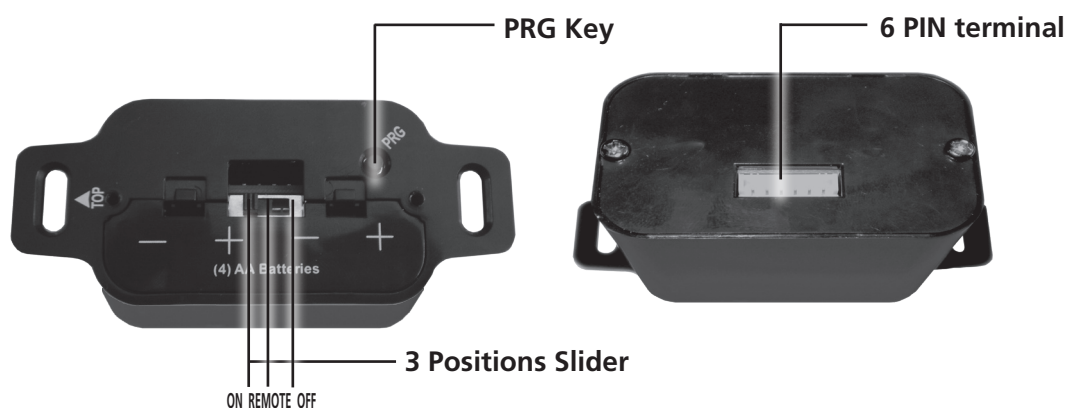

Fig. 1: Proflame 2 Battery Holder body.
Install the 4 AA batteries into the Proflame 2 Battery holder battery bay. Note the polarity of the battery and insert into the battery bay as indicated on the cover (+/-). Place the 3 position slider switch in the **"Remote"** position. (Fig. 1) Insert the end of a paper clip or similar object into the hole marked **"PRG"** on the Receiver front cover. (fig 1) The Receiver will "beep" three (3) times to indicate that it is ready to synchronize with a Transmitter. Install the 3 AAA type batteries in the Transmitter battery bay, located on the base of the Transmitter and push the On button. The Receiver will "beep" four times to indicate the Transmitter's command is accepted and set to the particular code of that Transmitter. The system is now initialized.